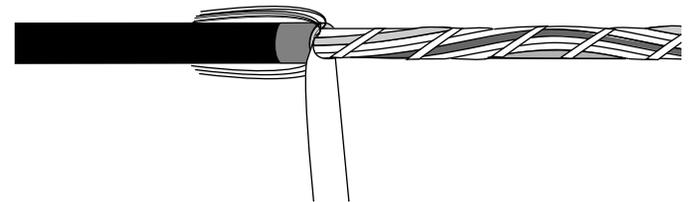

Figure 14
5.14 Separate the water blocking tape from the cable core (Figure 14). Use scissors to cut the water-blocking tape flush with the end of the cable sheath.